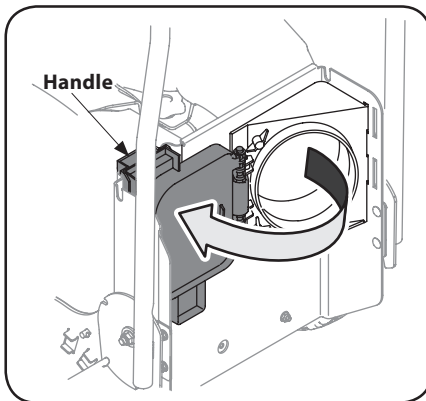

Figure 2-6
- b. Open the rear discharge door using the door handle. See Figure 2-6.